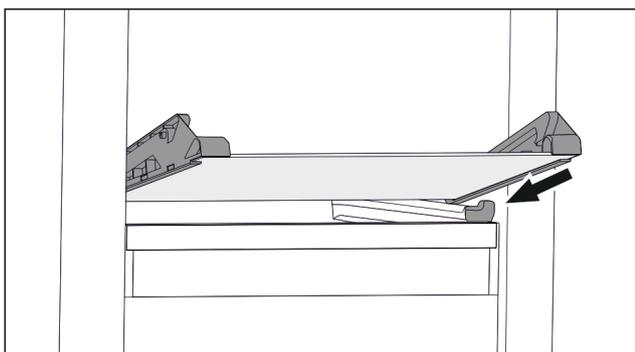

Fig. 93 Tilting drawer glass shelf
- ▶ Position glass shelf at an angle behind the stoppers. (see Fig. 93)